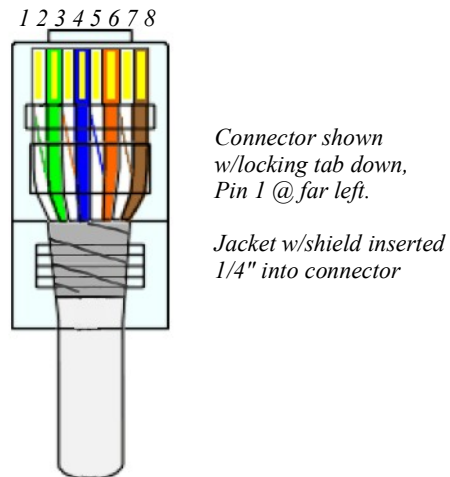

Figure 4-3 - CAT5e Cable End Loaded Into Connector
3. Hold the connector in front of you with the locking tab down. Orient the wires so connector pin 1 aligns with cable pin 1, etc. (Pin 1 is on the far left). Slide the wires into the CAT5e connector. The cable jacket should extend into the connector about 1/4" for strain relief (Figure 4-3).